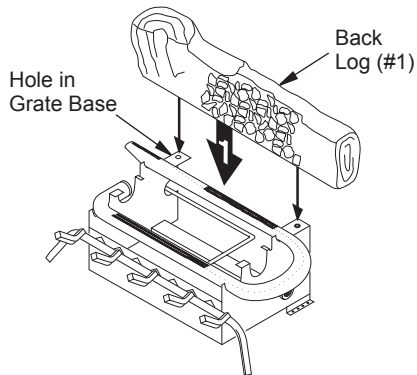

Figure 25 - Installing Back Log (#1)
1. Locate pegs on bottom of back log (#1). Slide these pegs into holes in grate base behind burner (see Figure 25).